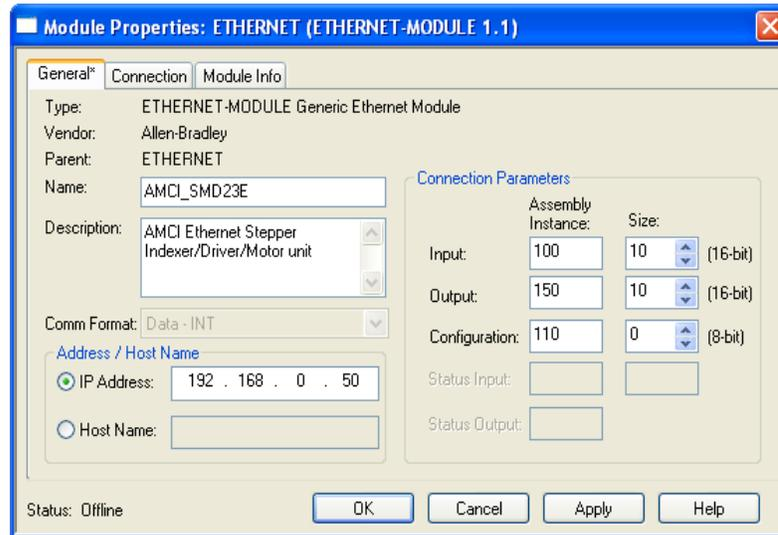

Figure 9.2 Sample SMD23/4E Configuration Screen
- 3) Set the following parameters in the Module Properties window. All parameters not listed here are optional. Figure 9.2 shows a completed screen.